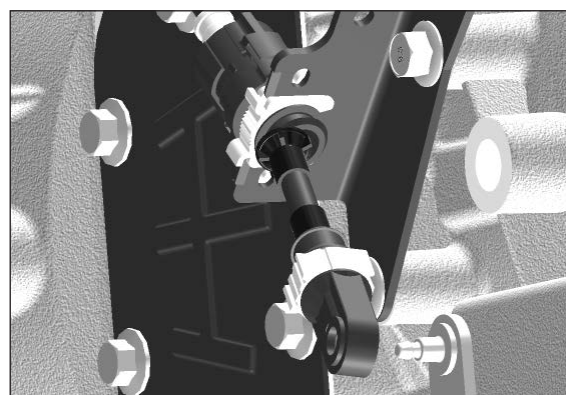

Figure 86
4. Disconnect the selector lever cable from the manual control lever (**Fig. 86**).